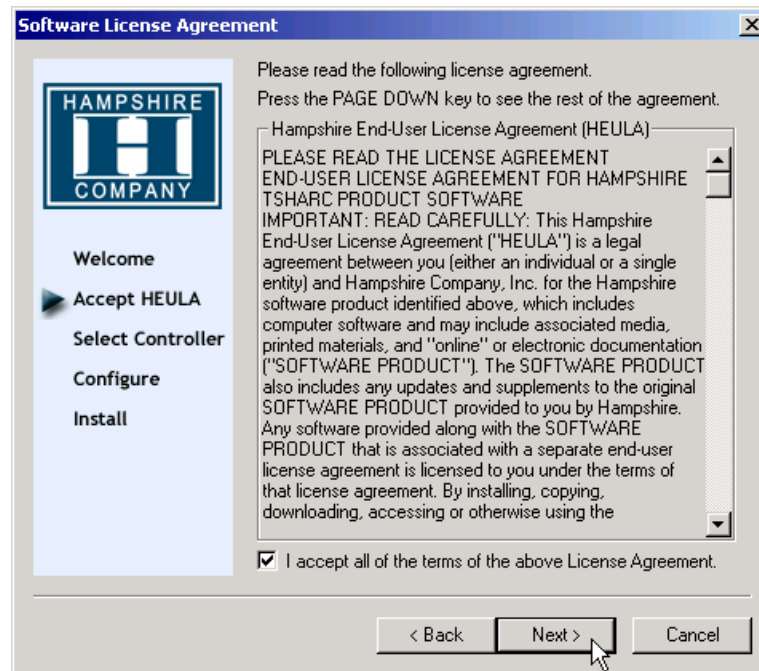

Figure 35: Install Products
4. Then click TouchScreen (Figure 35)